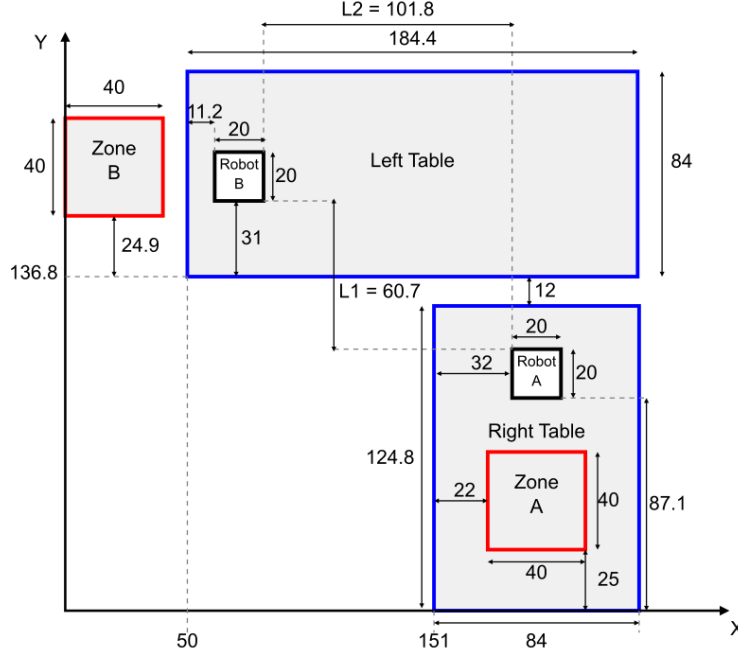

Figure 2: Dimensions are in cm.
5. **Validate measurements (!)-** Make sure the environment is as defined in the code (this should be the same as the measurements depicted in Fig. 2)